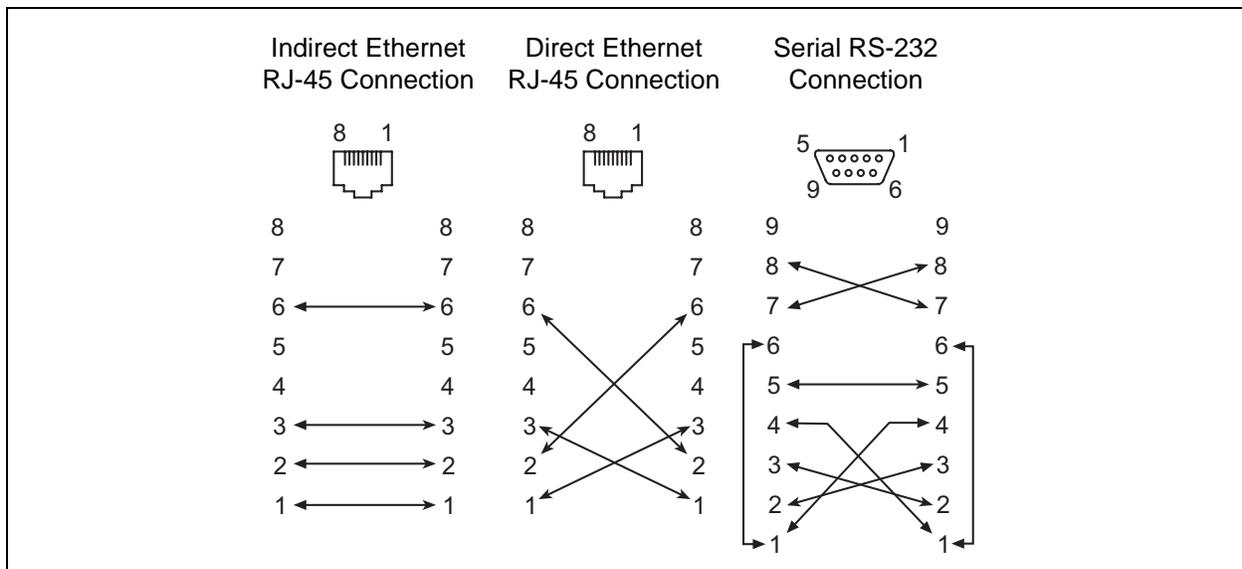

Figure 4-4 Workstation Cable Connections
- Indirect Ethernet connection from the management workstation to the switch RJ-45 Ethernet connector through an Ethernet switch or a hub. This requires a 10/100 Base-T straight cable as shown in Figure 4-4.
- Direct Ethernet connection from the management workstation to the switch RJ-45 Ethernet connector. This requires a 10/100 Base-T cross-over cable as shown in Figure 4-4.
- Serial port connection from the management workstation to the switch RS-232 serial port connector. This requires a null modem F/F DB9 cable as shown in Figure 4-4.